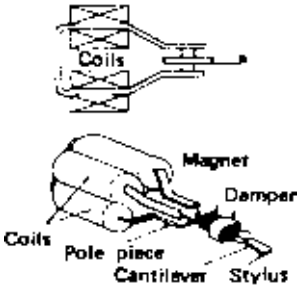

Fig. 2-11
Moving magnet (MM) cartridges (Fig. 2-11) have a tiny permanent magnet attached to the cantilever which, by moving freely between an assembly of coils, induces a voltage in these coils. Moving magnet cartridges are among the most commonly used hi-fi cartridges, offering the benefits of small moving mass and relatively high output voltage, i.e. efficiency.